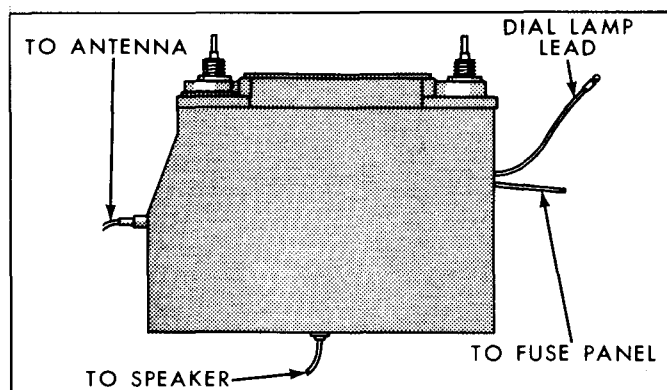

Fig. 11-4—Radio Wiring Connections—(60C-7825)
3. Disconnect the antenna lead-in cable and the speaker plug. See figure 11-4.